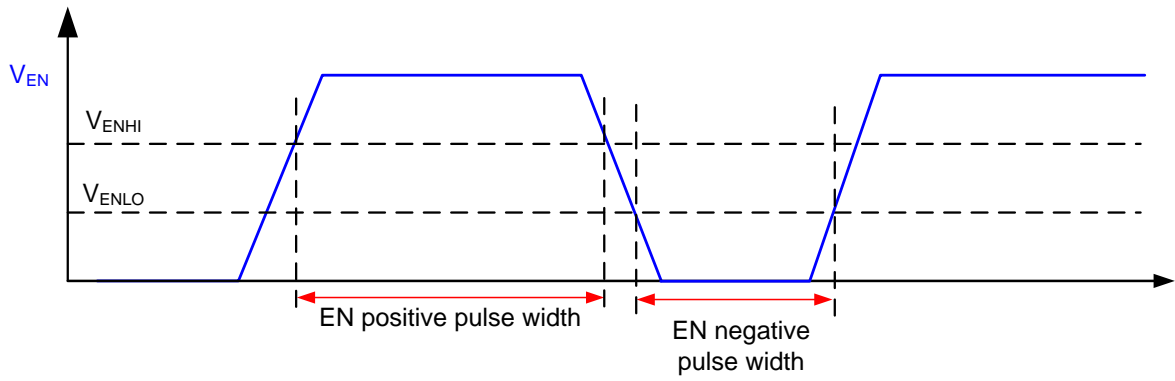

Figure 12B: Enable timing waveform
This pin is used to activate the IC "sleep" mode by pulling the voltage level below 1.6V (typ). In sleep mode the IC will consume a minimum amount of current. All switching functions will be disabled and the gate will be inactive. The EN pin voltage cannot linger between the Enable low and Enable high thresholds. The pin is intended to operate as a switch with the pin voltage either above or below the threshold range. The Enable control pin (EN) is not intended to operate at high frequency. For proper operation, EN positive pulse width needs to be longer than 20 μ s, EN negative pulse width needs to be longer than 10 μ s. Please refer to Figure 12B for definition the definition of EN pulse width.